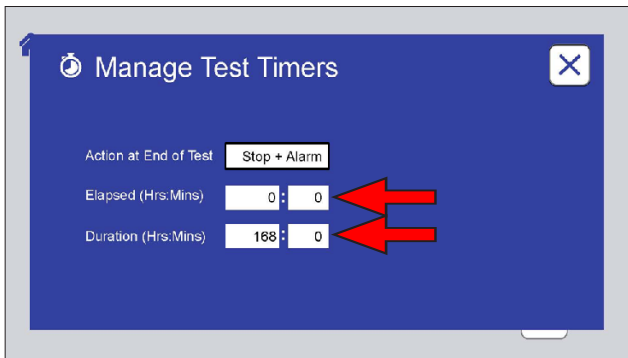

Figure 9.5d: Touch the Elapsed or Duration text boxes to reset the elapsed or duration time of the current test. A numeric keypad will be displayed.
- o Change the elapsed time in hours and minutes for the current test (Figure 9.5d).